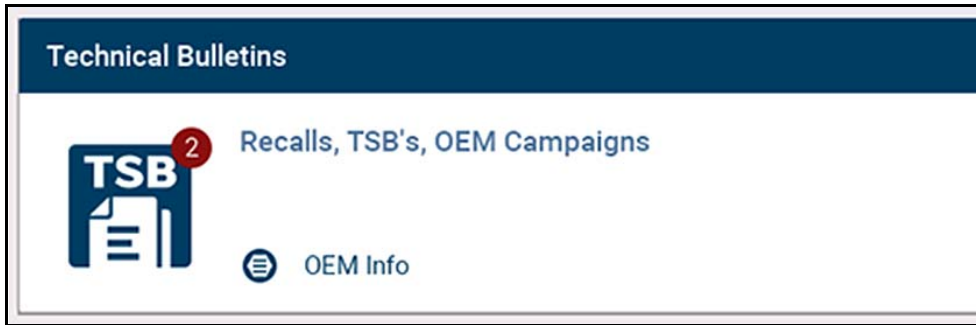

Figure 6-10
The Technical Bulletins card (*Figure 6-10*) provides a quick link to available OEM Recall, TSB and Campaign information that is code related.
- A red icon (*Figure 6-10*) indicates the total number of Recalls, TSBs, and OEM Campaigns that have been found.